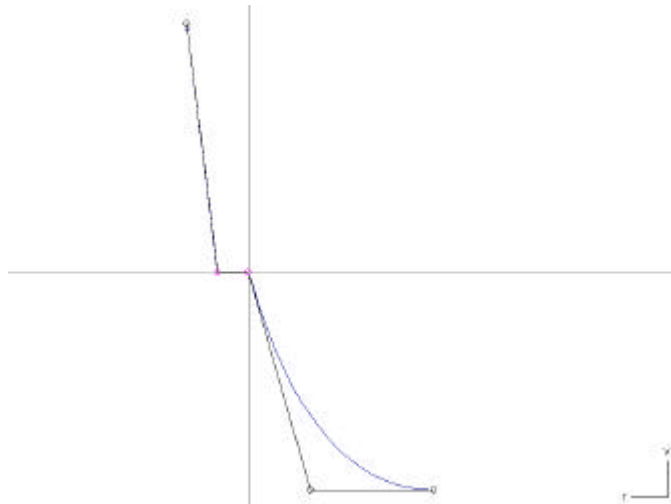

Figure 3-2: Section Curve
- In *Front* view, add another vertex and use the **Toggle Corner** button to form a chine flat and then reposition the vertices to form the hull section at midship, as depicted in Figure 3-2.